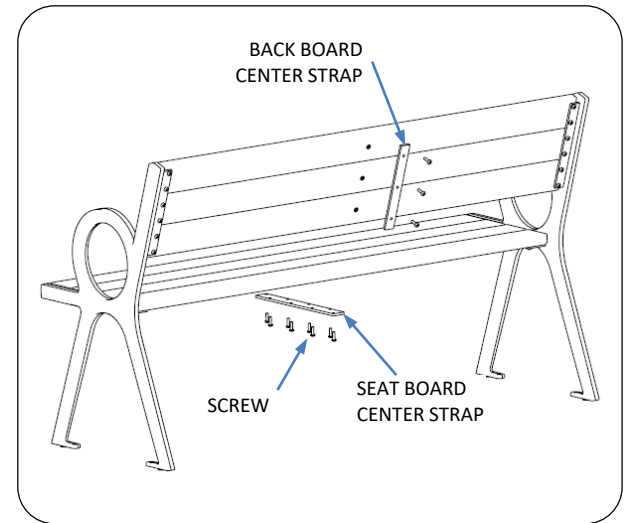

Fig. 4 – install center straps
3. Attach center straps, see Fig. 4.